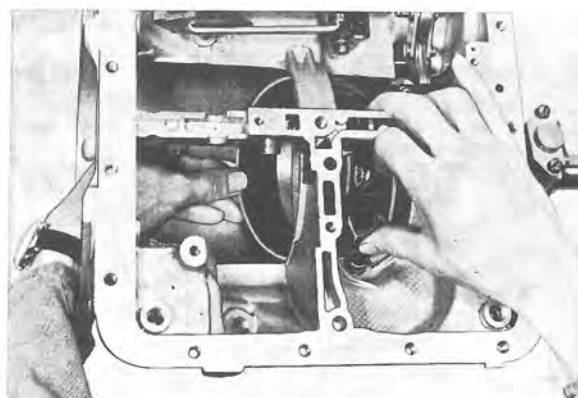

Fig. 4-104. Installing rear brake band
6. Place the rear brake band in position in the case, see Fig. 4-104. Then fit the rear servo assembly. Tighten only the rear (short) servo screw since the long one also locates the center support.